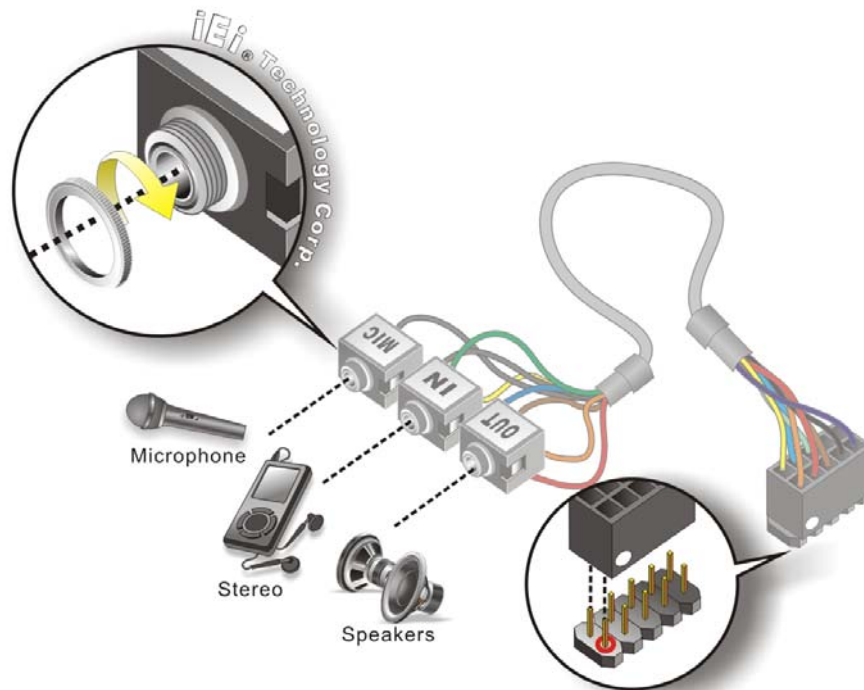

Figure 4-13: Audio Kit Cable Connection
Step 2: Align pin 1. Align pin 1 on the on-board connector with pin 1 on the audio kit connector. Pin 1 on the audio kit connector is indicated with a white dot. See Figure 4-13.